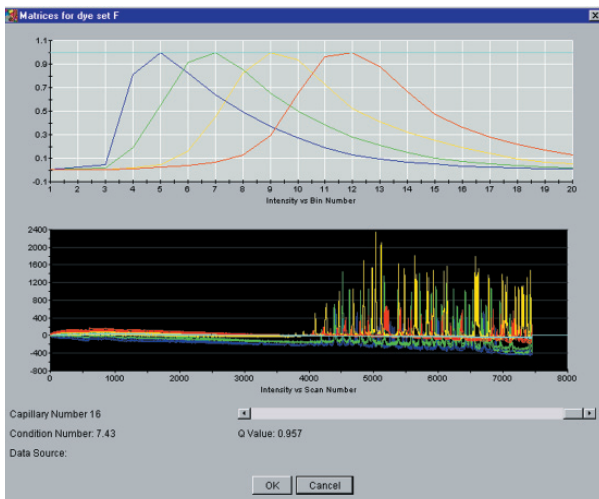

Fig 4. Spectral calibration profile for F using POP-6 with the ABI 3100.
13. Examine the results for each cap and verify that the profile is similar to that shown in Figure 4.
Review the calibration profile using the following steps. Open the Data Collection software; select **Override Spectral Calibration** from the **File Menu**. A dialog window titled **Select the dye set to display** appears. Select **F** from the pull down menu (**IMPORTANT!**). Click **OK**. This action opens the dialog window **Spectral Calibration Profile for F**. The fluorescence emission spectra for all four dyes in a particular capillary is displayed as shown in Figure 4. Examine the results for each cap and verify that it is similar to the one shown in this example and as illustrated on page 4–29 of the ABI 3100 user's manual. Although, the software assigns values from successful caps to failed caps in some instances, the profile may not be similar to the one shown in the illustration. When this happens, manually replace the values with the data from a successful adjacent matrix. At the bottom left of the dialog box, under **Override matrix from another source** click on the button **From capillary**. These commands allow you to select a value from any acceptable capillary.
10. Examine the results for each cap and verify that the profile is similar to that shown in Figure 4.